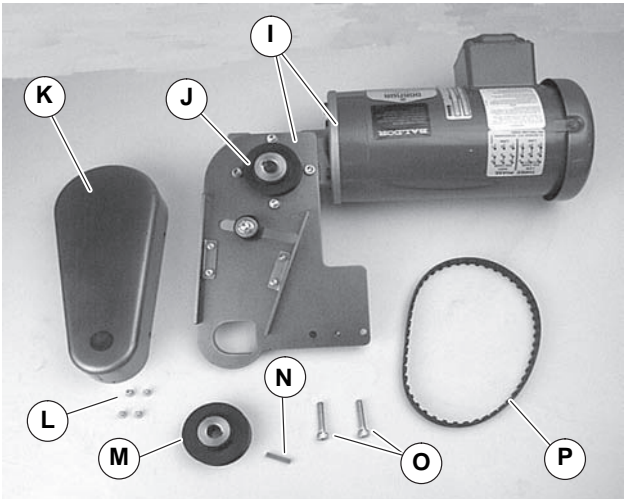

Figure 4
1. Typical gearmotor components (Figure 4)
*Flat belt mounting package shown above (Figure 4), cleated belt mounting package similar.*